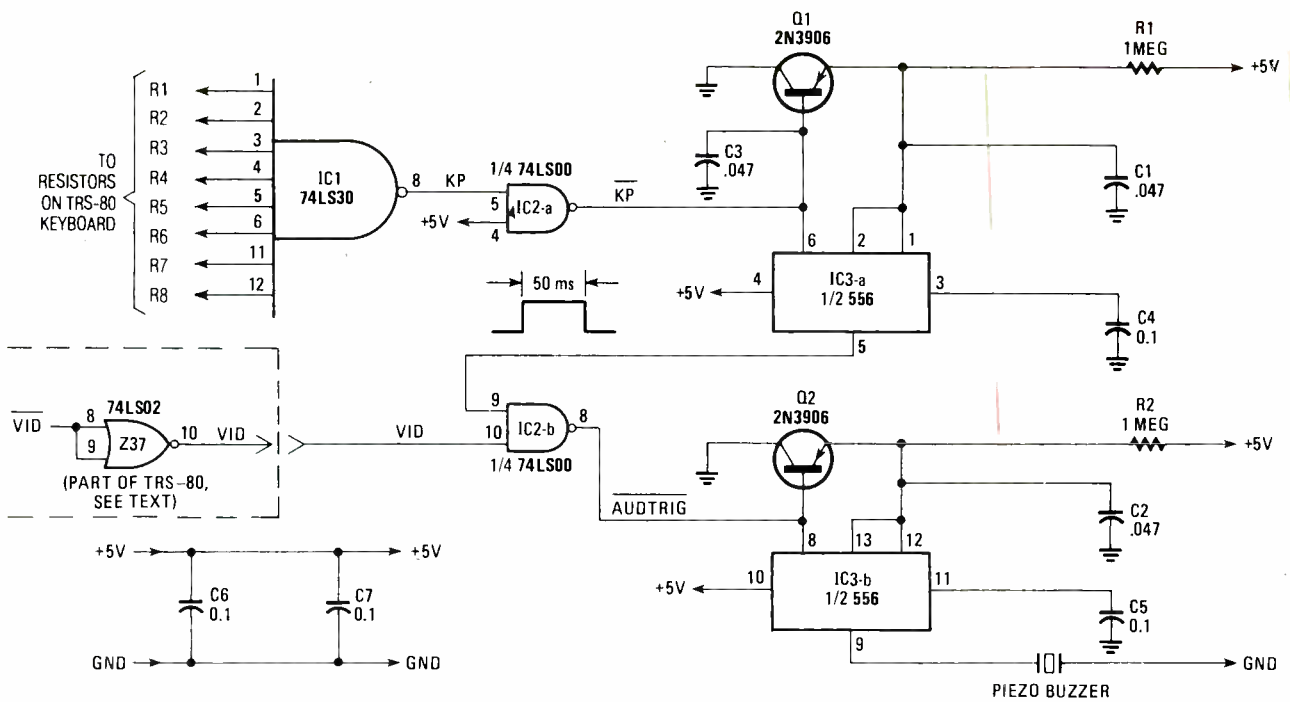

FIG. 1—SCHEMATIC DIAGRAM OF THE BEEPER showing connection to the TRS-80.
eight-input NAND gate, IC1, (see Fig. 1, the complete schematic of the TRS-80 beeper) a keypressed (KP) signal is generated at the gate output anytime a column line goes low. Since the timers we are using are triggered by a signal that goes low, we invert the KP signal using IC2-a, one of the two-input NAND gates of IC-2, and the resulting \overline{KP} signal is used to trigger $\frac{1}{2}$ of IC3-a, a 556 dual timer connected as a retriggerable, negative recovery, monostable multivibrator, to give a KP pulse approximately 50-ms long.